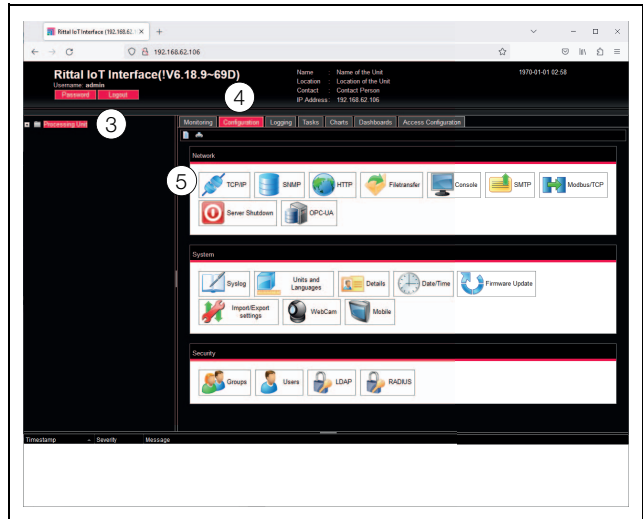

Fig. 11: Customising the TCP/IP settings
- Click the **Processing Unit** entry in the left-hand sub-area (navigation area) of the overview window (fig. 11, item 3) and the **Configuration** tab in the right-hand subarea (configuration area) (fig. 11, item 4).
- Click the **TCP/IP** button in the **Network** group frame (fig. 11, item 5).